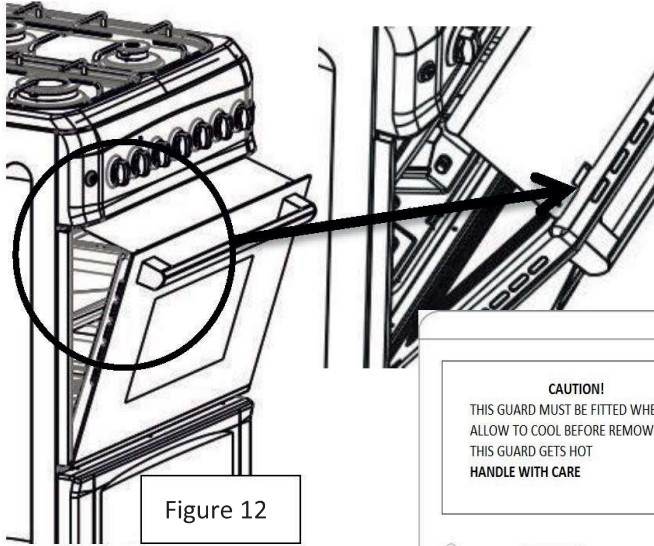

Figure 12
- 5- Place the grill deflector under the control panel by opening the oven door and locating the panel over the lugs as per the diagram below. The panel must be fitted with the symbol facing upwards. Then secure the grill deflector by gently closing the door. (Figure 12 or Figure 13)
Use the grill deflector suitable for your product. (Figure 12 or Figure 13)